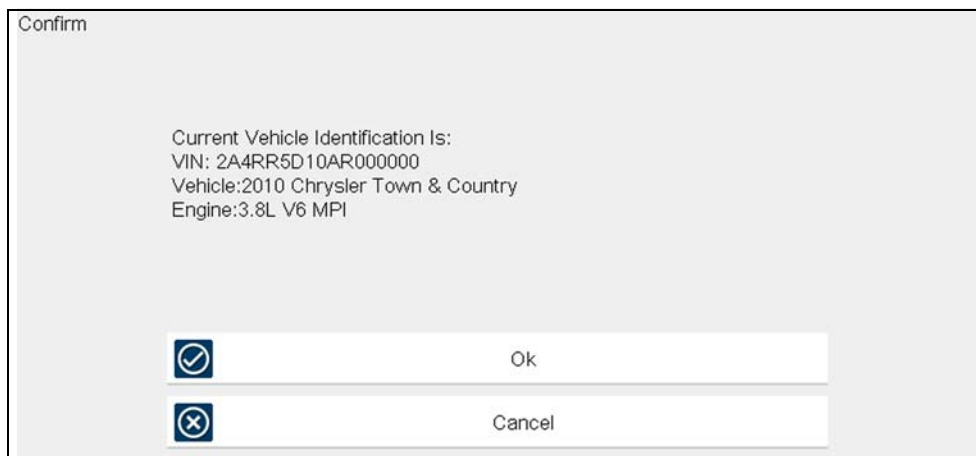

Figure 6-3 Vehicle confirmation screen
- a. Instant ID may occur, as indicated by an audible "beep" approximately 6 seconds after boot-up. Select the **Scanner** icon, then wait for the vehicle confirmation screen (Figure 6-3) and select **OK** to continue. Then proceed to **step 6**. See Instant ID on page 23, for additional information about this function.
b2.) Once the vehicle has been identified, the vehicle confirmation screen displays (Figure 6-3). If the vehicle information is correct, select **OK** to continue, then proceed to step 6.